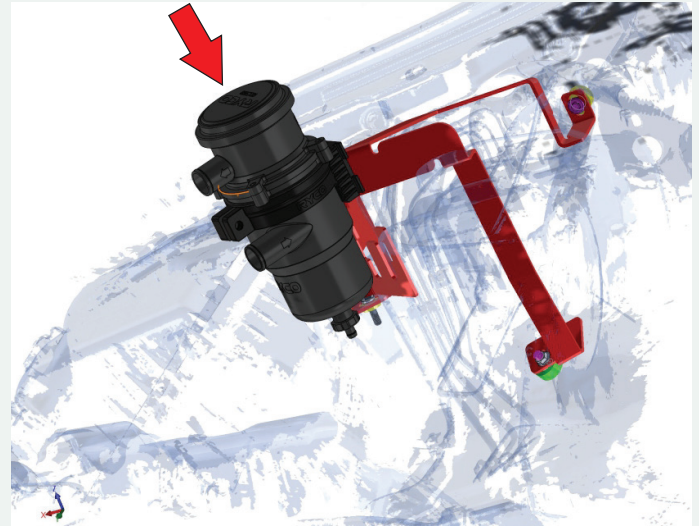

FIGURE 4A
- 10 Slot RCC351 Catch Can with nylon bracket onto the FB9810CC Catch Can bracket as shown in FIG. 4A